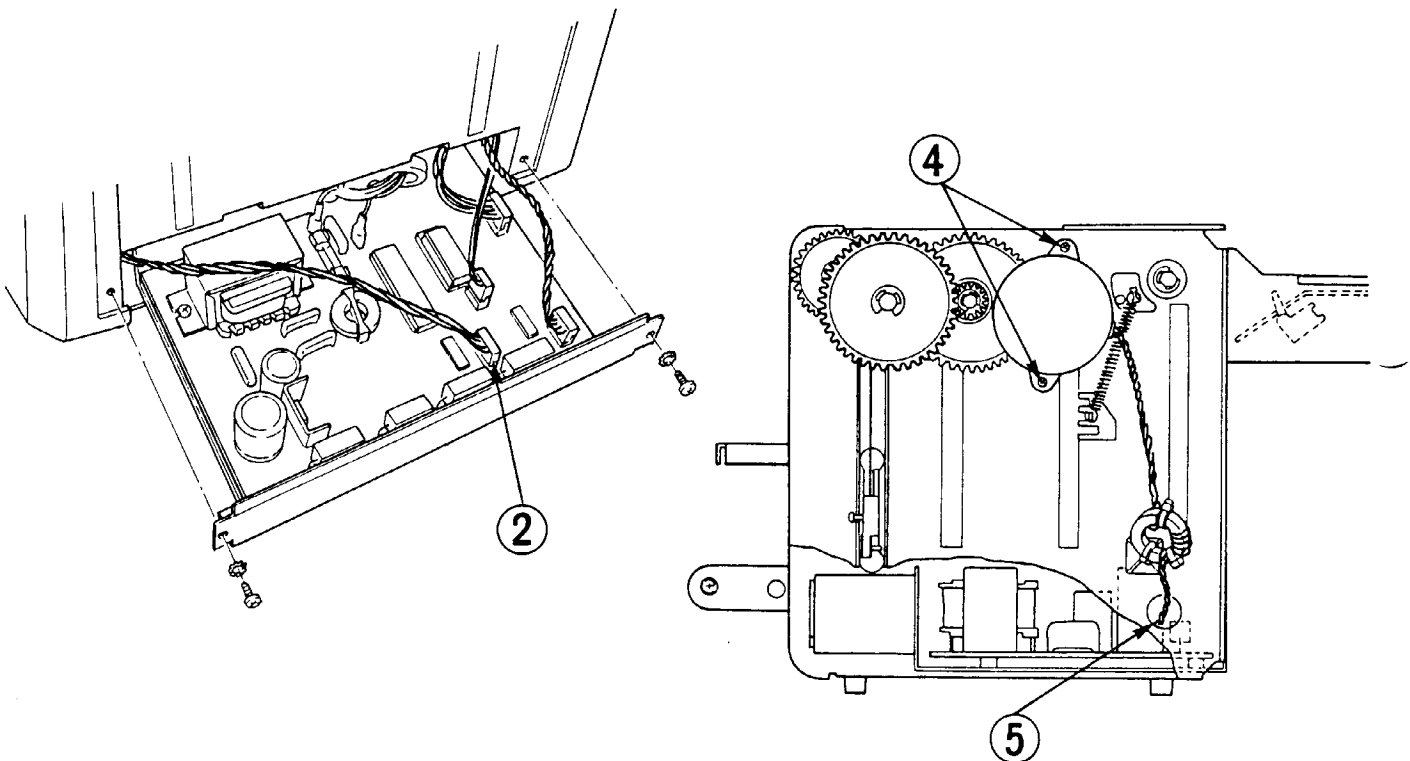

FIGURE 4-7. ELEVATOR MOTOR REMOVAL
2. Remove elevator motor cable from circuit board connector J1 (see Figure 4-7).